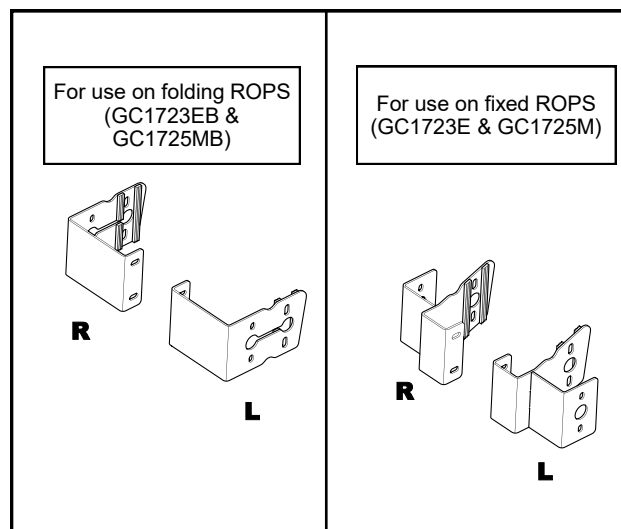

Fig. 8.1 (Roll Bar Bracket Options)
**8.1** Per Fig. 8.1, select the appropriate pair of roll bar brackets for the application. Discard whichever pair is not used.